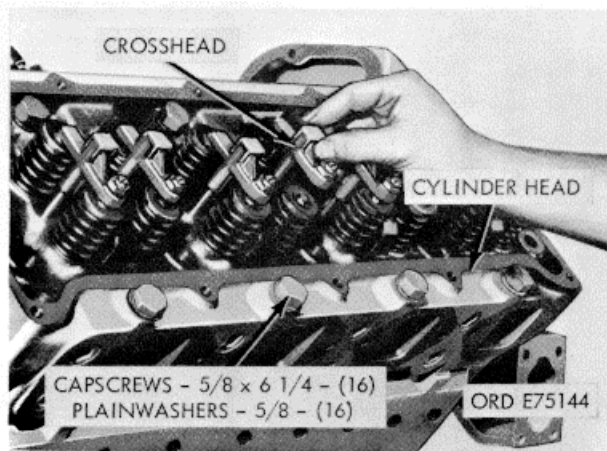
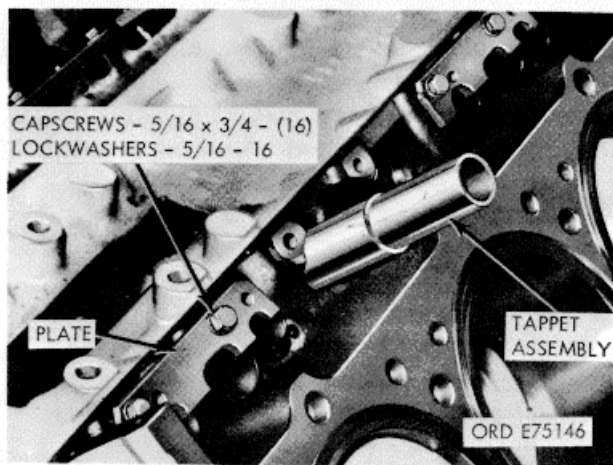
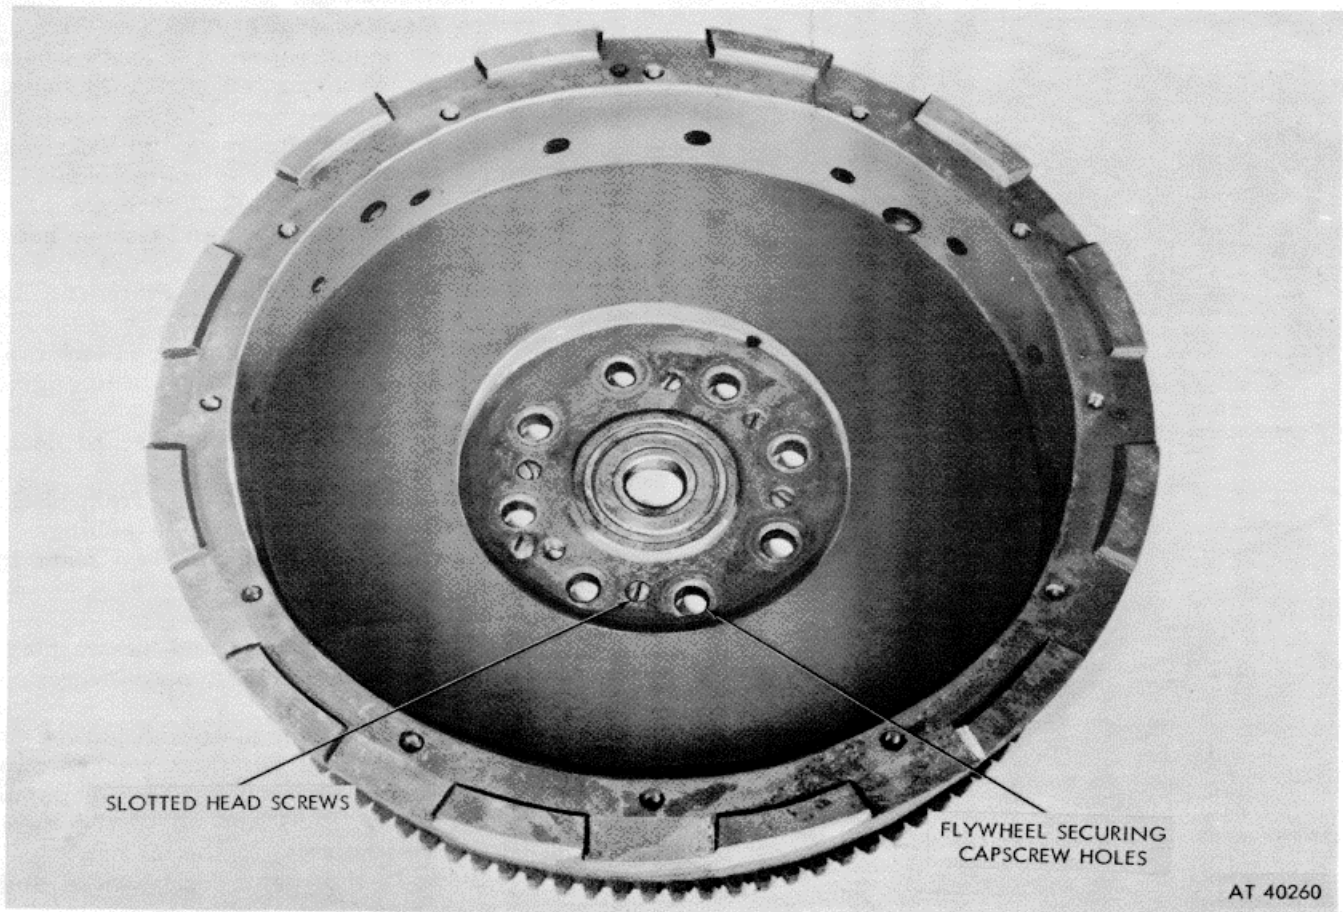

Figure 2-18. Valve crossheads - removal/installation.
Figure 2-20. Valve and injector tappets - removal/installation.
Figure 2-21. Flywheel-removal/installation.
*e. Valve Crossheads* (fig. 2-18). Remove sixteen crossheads by lifting each straight up from guides.
(2) Attach lifting hook of chain fall, or other suitable lifting device, to lifting plate. Take-up slack in chain or cable.
(3) Remove 16 capscrews and flat washers (fig. 2-18) securing heads to block (eight cap screws per head).
(4) Using lifting device remove each cylinder head. Remove gaskets.
*g. Valve and Injector Tappets* (fig. 2-20).
(1) Remove 16 capscrews and lockwashers (eight per cylinder head) securing eight tappet guide plates to heads (four per head).
(2) Remove guide plates.
(3) Lift tappet assembly from block.
*h. Flywheel* (fig. 2-21).
(1) Cut lockwire on six capscrews securing flywheel to crankshaft adapter.
(2) Remove two opposing capscrews.
(3) Insert two 5/8 x 6-inch headless studs in